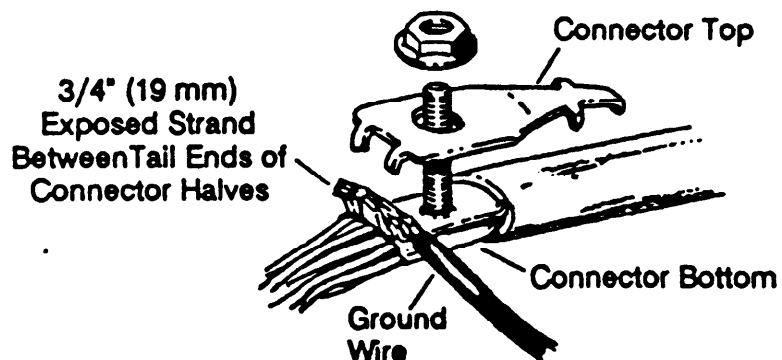

Figure 5.3 - Applying Strand to Base
5.03 Exposed strand. See Figure 5.3.